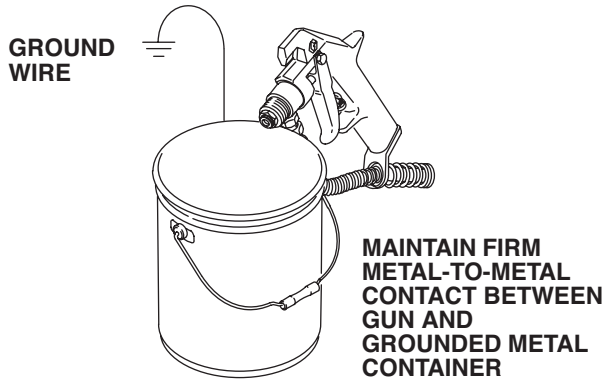

FIG. 6
6. Hold a metal part of the gun firmly against and aimed into a grounded metal pail. Squeeze the gun trigger and hold it open. (FIG. 6)